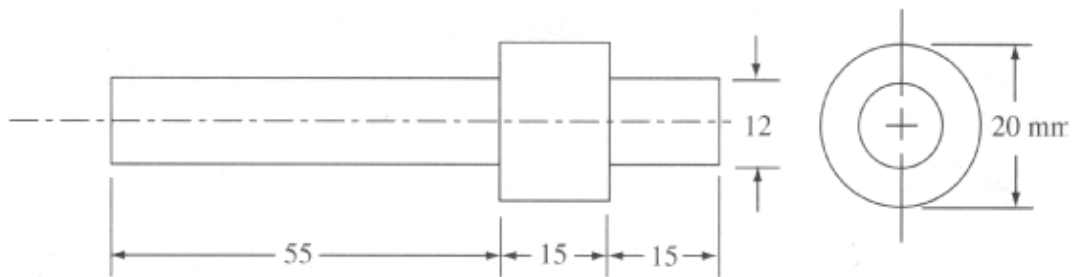

Figure 2
- (a) Several methods can be used to manufacture the steel part shown in figure 2. List three methods and describe the advantages of each process. You should consider the equipment needed, the amount of scrap produced and the strength of the complete part. All dimensions shown in millimetres (mm).